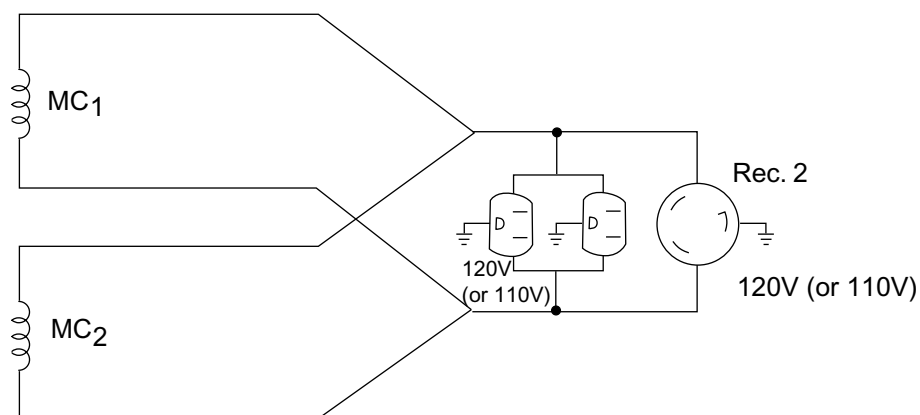

Figure 5: Full Power Switch Set for Single-Voltage Output
- (d) Refer to Figure 5 for a simplified diagram of the circuit. The two main coils are shown in parallel. In this case, the higher voltage (220V or 240V) at Receptacle (Rec.) 3 is not available. Rec. 2 for the lower voltage is available up to the rated power (up to 30A if the rated current is over 30A), and Rec. 1 is available up to 15A. When the full power switch is set for double voltage indication (110V/220V or 120V/240V), the switch position is indicated by the upper dotted line in Figure 8.